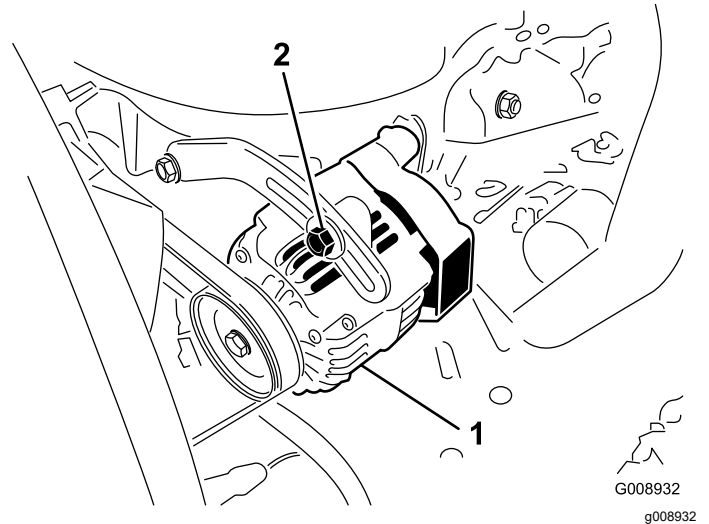

Figure 56
2. If the deflection is not 10 mm (3/8 inch), loosen the alternator mounting bolts (Figure 56).